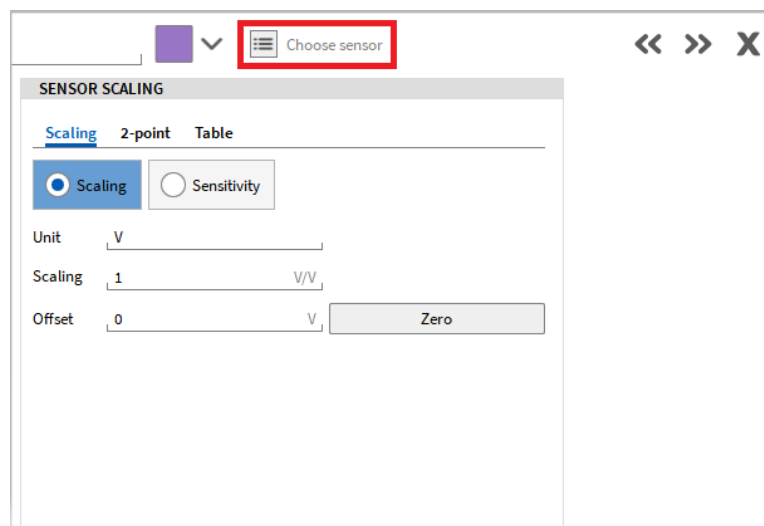

Fig. 6.14: Applying a sensor to a channel in the channel settings
- Click on the *Choose sensor* button in the upper right corner, seen in Fig. 6.14.